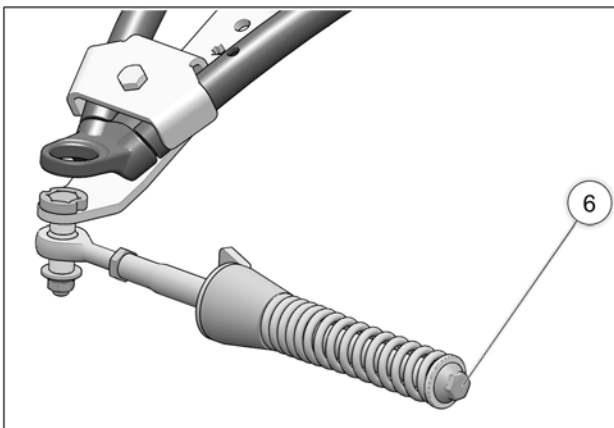

Fig. 22
- Verify that spring assembly bolt (6) is tightened to the recommended torque specification: 75 N•m [55 lb•ft]. Refer to Fig. 22
10. Vérifier que le boulon du ressort (6) est serré au couple recommandé : 75 N•m [55 lb•pi]. Fig. 22